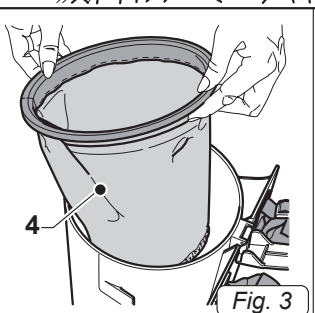
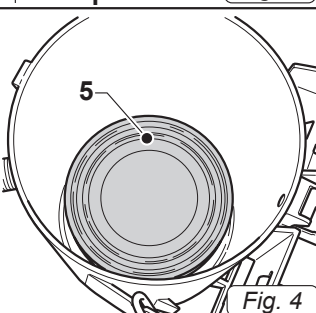
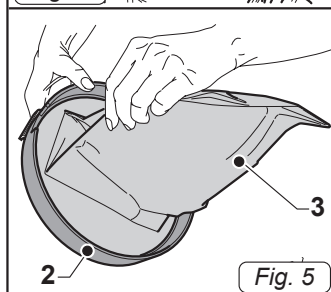

Fig. 3
Fig. 4
Fig. 5
- Remove the cloth filter bag (4 Fig.3) and ensure that the filter cartridge is mounted inside the unit (5 Fig.4).
- Set the cloth filter bag back in place (4 Fig.3) and remount the dust bag (3 Fig.5) on the underside of the lid (2 Fig.5). Whilst keeping this in place, put back the